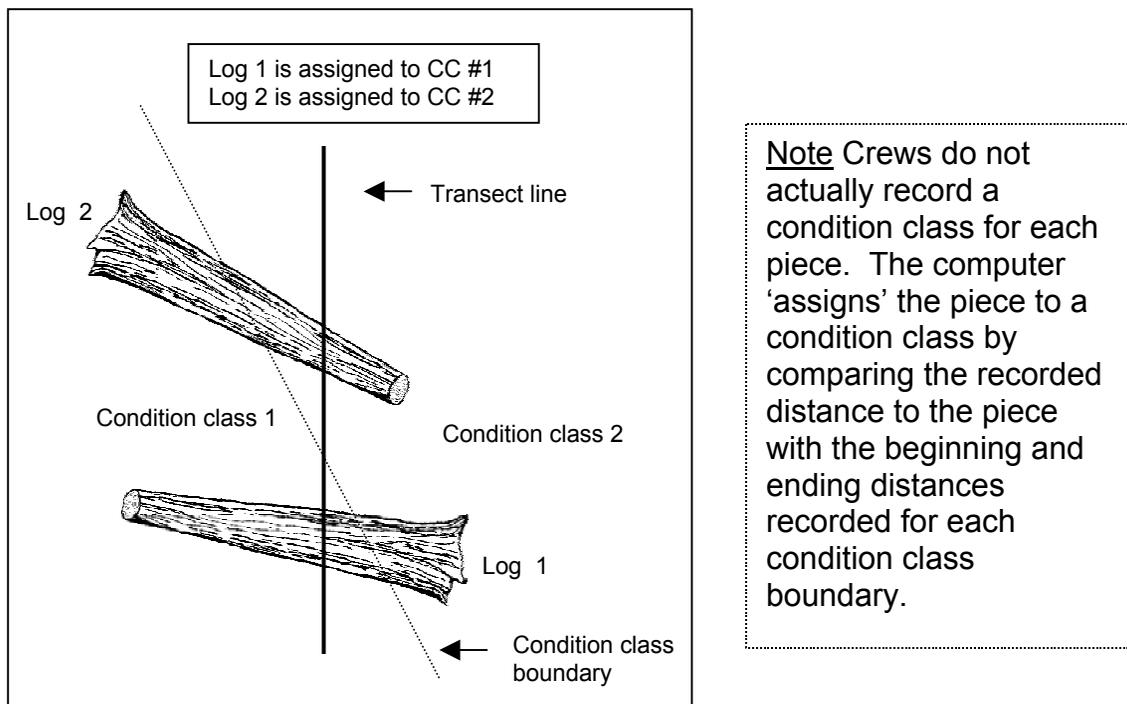

Figure 14-7. CWD tally rules when the piece lays across two or more condition classes.
1. The entire piece is assigned to the condition class found at the point of intersection with the transect. Tally the piece if the condition class at the intersection is accessible forest land (CONDITION_STATUS = 1) (Figure 14-7).